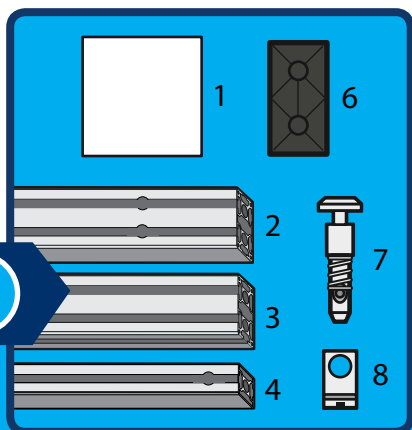

Fig. 29
Befestigen Sie die Anker, gerade (Fig. 29, Nr. 7) an den geraden Enden folgender Profile:
- je 2 mal an den Enden der Profile (40x80x840 mm D1, D2 /480mm D4) (Fig. 29, Nr. 3)
- 2 mal am Profil 40x40x800 mm (Fig. 29, Nr. 4)
Attach the straight anchor pieces (Fig. 29, No. 7) to the straight ends of the following profiles:
- 2 at each end of the profiles (40x80x840mm D1, D2/480mm D4) (Fig. 29, No. 4).
- 2 x on the profile 40x40x800mm (Fig. 29, No. 4)
(Fig. 29, Nr. 6) an den offenen Profilenden
(Fig. 29, No. 6) are fitted on the open profile